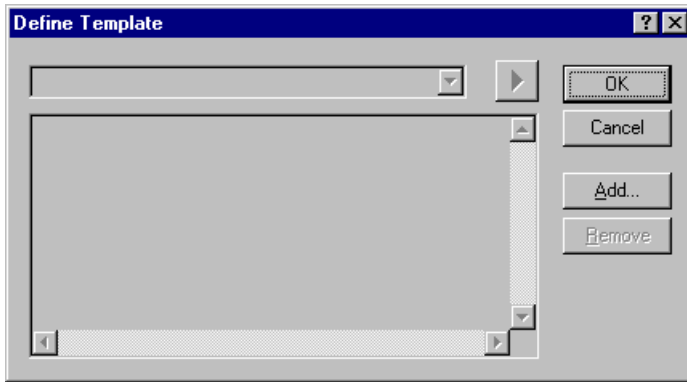

Figure 4.14: Define Template Dialog
1. Select [**Edit->Templates->Define Templates...**], select [**Templates->Define Templates...**] from the local menu, press **CTRL+T** or click on the define template toolbar button . The dialog shown in figure 4.14 will be displayed.
1. Select **[Edit->Templates->Define Templates...]**, select **[Templates->Define Templates...]** from the local menu, press **CTRL+T** or click on the define template bookmark toolbar button (). The dialog shown in figure 4.14 will be displayed.